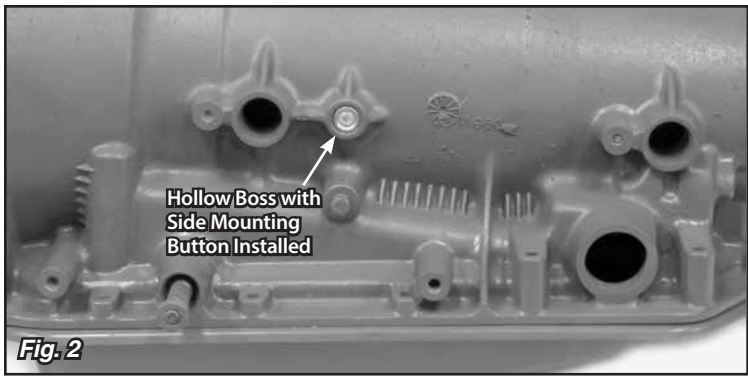

Fig. 2
Step 2: In the Lokar Shifter Kit you are supplied with two aluminum side mounting buttons that are approximately 5/8" in diameter. Your transmission has two round, hollow bosses cast into the case, one on the driver's side and one on the passenger's side. Clean any paint or debris out of these bosses, and install the side mounting buttons into the bosses with the flat side in toward the transmission case. **Fig. 2**